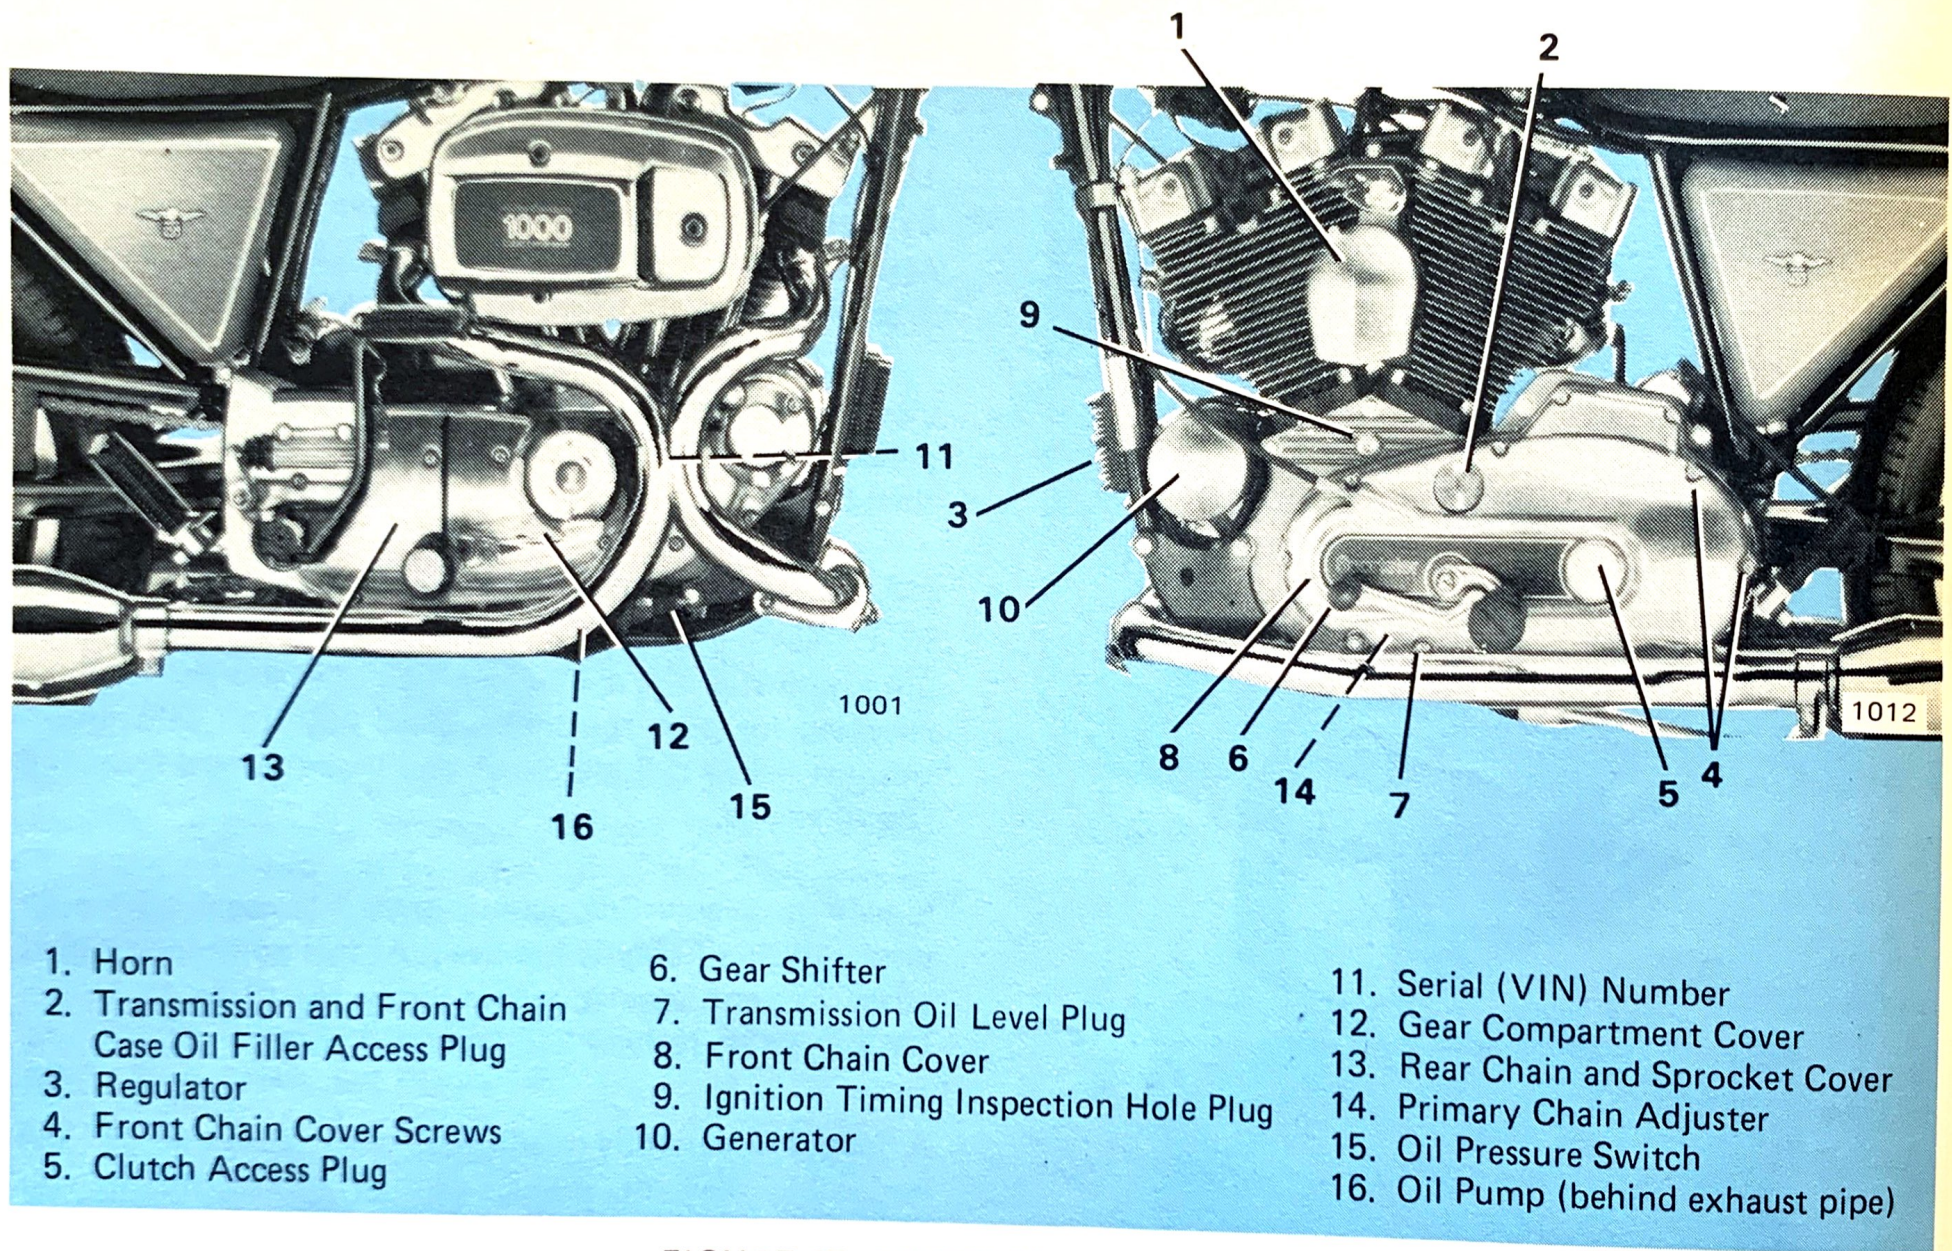

FIGURE 17. MODEL XLCH ENGINE
1. Remove access plug (5, figure 17) from the left side chain compartment cover.
2. Loosen the locknut (1) and turn the screw (2) inward until it starts to release the clutch (screw turns harder). Then turn the screw two turns farther in, and lock locknut (1).
3. Loosen locknut (4) on adjuster (3) and turn the adjuster inward until slack can be felt in the cable (some play at hand lever). From that point, turn the adjuster back out to a position where all slack in the cable is just eliminated (no play at hand lever) and tighten the locknut. This is the correct cable adjustment.
4. The clutch release adjustment should then be made with screw (2) as follows: Loosen locknut (1) and back off the screw until the clutch is engaged (screw turns easier), then turn screw inward until the point where free play has just been eliminated. From this point, turn screw outward 1/2 turn to establish correct free play, hold screw in this position and tighten locknut.
5. If the above procedure fails to produce correct clutch adjustment, remove left side gear compartment cover and check clutch operating lever to see that three balls on operating cam return to low position in cam when lever is released. Loosen locknut (4) and adjuster (3) inward until there is 1/8 free hand lever movement